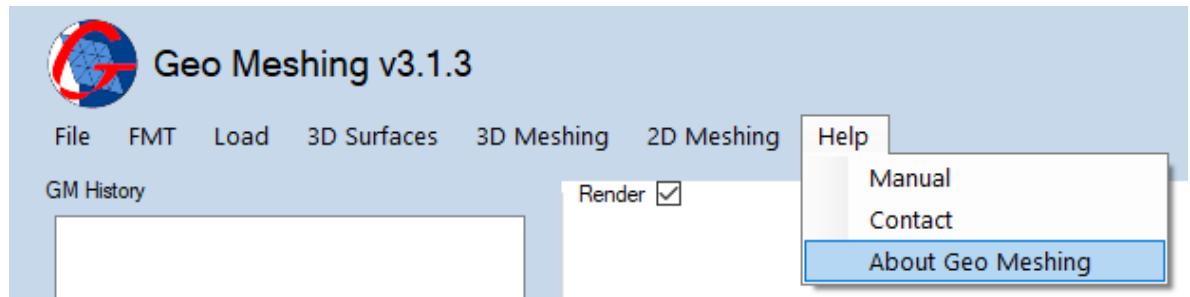

Figure 35: Help Strip Menu – About Geo Meshing.
- **Help Menu, About Geo Meshing:** This option (shown in Figure 35) displays *Geo Meshing v3.1* information along with the *Geo Meshing v3.1* code (See section 3.3 for more information).